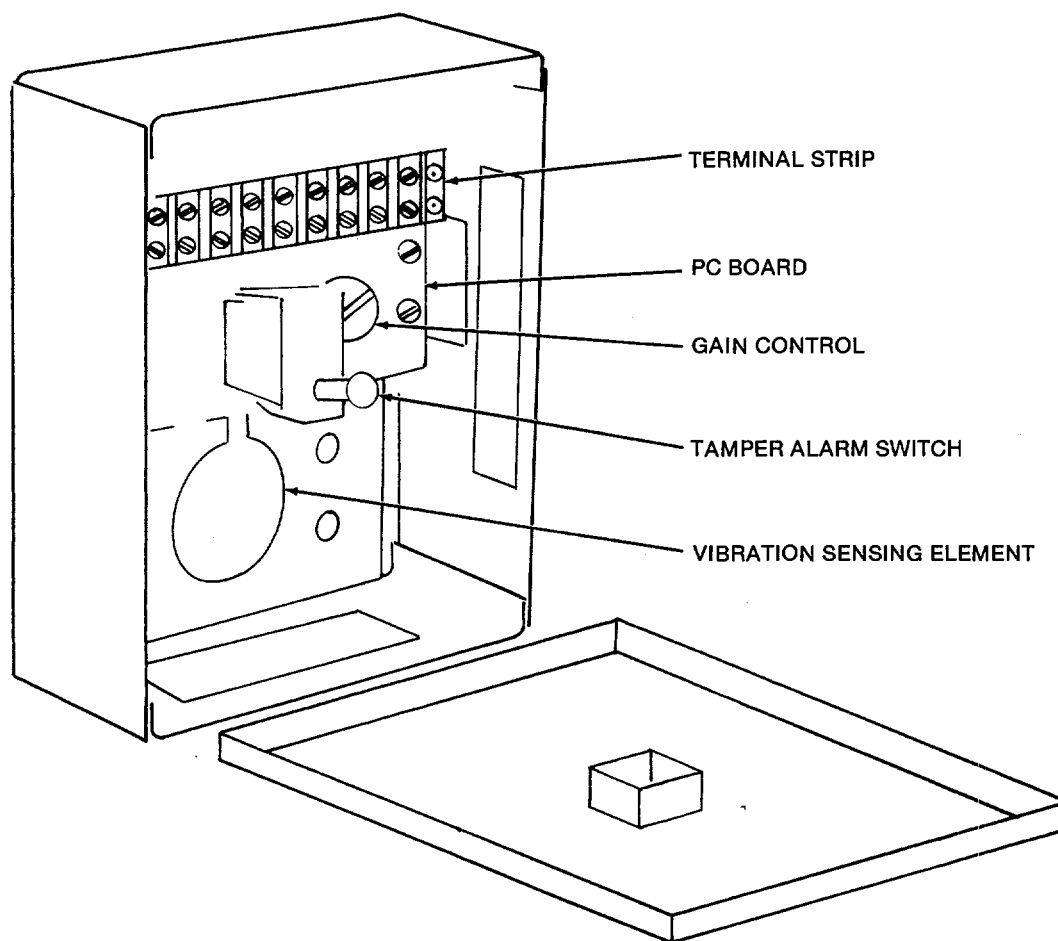

Figure 1-2. Detector, Vibration Signal DT-546/FSS-9(V)
- c. The Detector (fig. 1-2) consists of a PC board mounted inside a steel chassis. Mounted on the PC board are the gain control, tamper alarm switch, terminal strip for wire connections, and all electronic components. The vibration sensing element protrudes through an opening in the rear of the chassis and is secured firmly to the mounting surface. The chassis has a removable cover and access holes where interconnecting wiring is brought in through conduit.